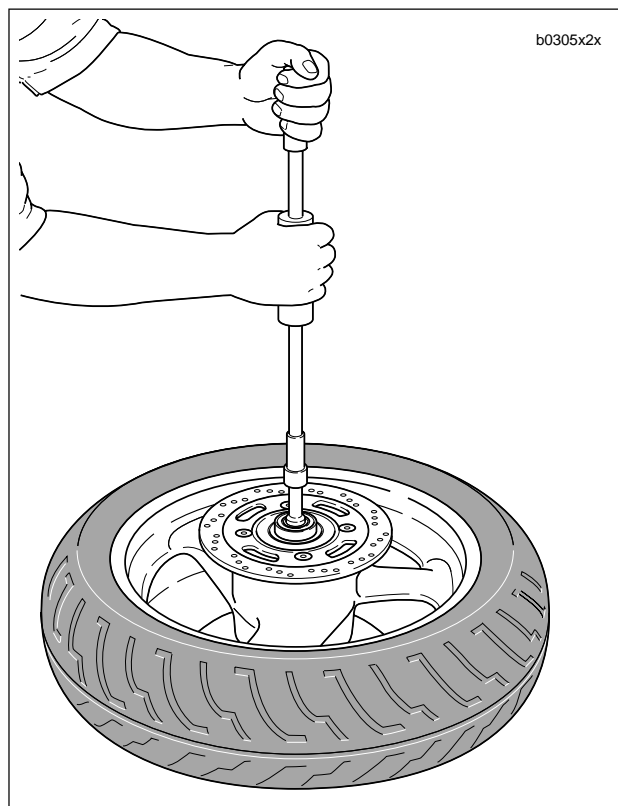

Figure 2-10. Removing Wheel Bearing
1. See Figure 2-10. Move wheel to bench area. On the brake rotor side of the wheel, remove bearing using BUSHING AND BEARING PULLER (Part No. HD-95760-69A) and 1 1/8 in. COLLET (Part No. HD-95769-69).